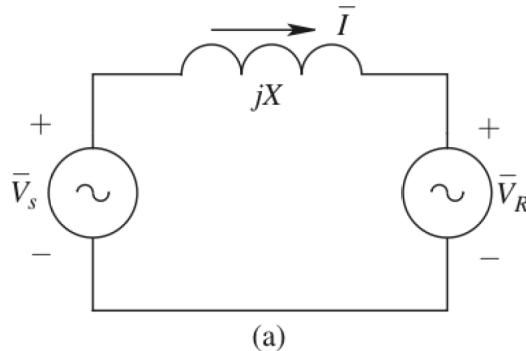

Figure 1: Power transfer between two AC systems.
3. In the per-phase circuit of Figure 1, the power transfer per-phase is 1 kW from side 1 to 2.  $V_S = 100 \text{ V}$ ,  $\bar{V}_R = 95 \angle 0^\circ \text{ V}$ , and  $X = 1.5 \Omega$ . Calculate the current, the phase angle of  $\bar{V}_S$ , and the per-phase  $Q_R$  supplied to the receiving end.
4. In a radial system represented by the circuit of Figure 1,  $X = 1.5 \Omega$ . Consider the source voltage to be constant at  $\bar{V}_S = 100 \angle 0^\circ \text{ V}$ . Calculate and plot  $V_S/V_R$  if the load varies in a range from 0 to 1 kW at the following three power factors: unity, 0.9 (lagging), 0.9 (leading).